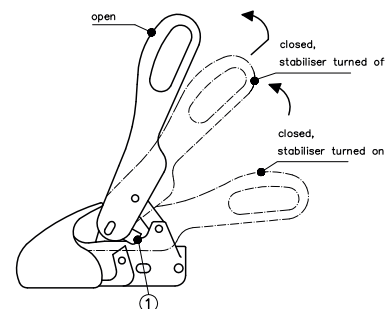

Fig. 6:
Pull the operating lever up slowly to deactivate the stabiliser (Fig. 6).
Disconnect lighting plug and contact breaking cable. Pull the operating lever upwards slowly in order to switch off the stabiliser (Fig. 6). Pull the operating lever back and simultaneously lift again (Fig. 6) so that the side securing plates (1) swing over the securing surfaces and the operating lever can be moved into the open position. The trailer can now be uncoupled from the towing vehicle with the help of a jockey wheel.